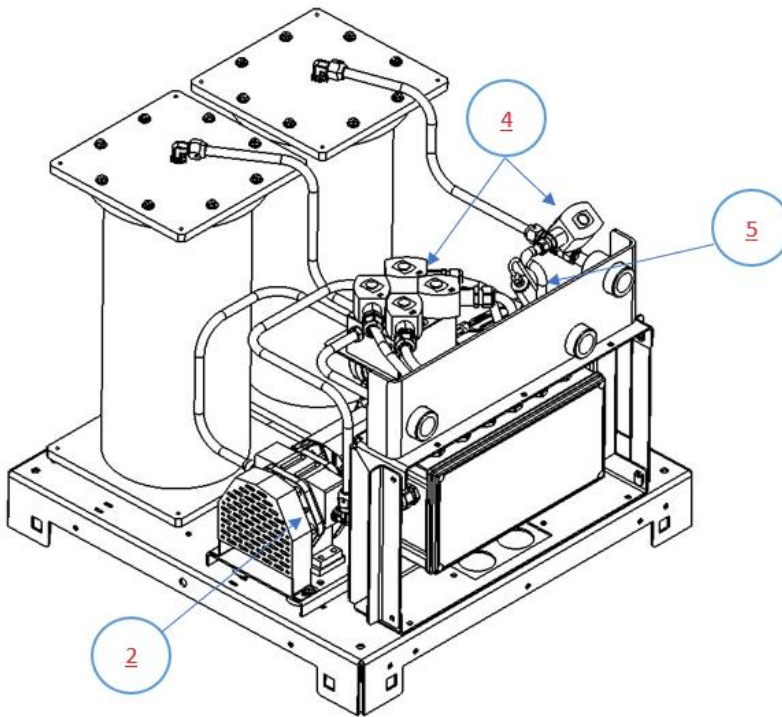

Figure 9-1: GREEN MACHINE Replacement Parts
- The GREEN MACHINE parts shown in the picture and table below must be supplied by VST. See Figure 9-1.